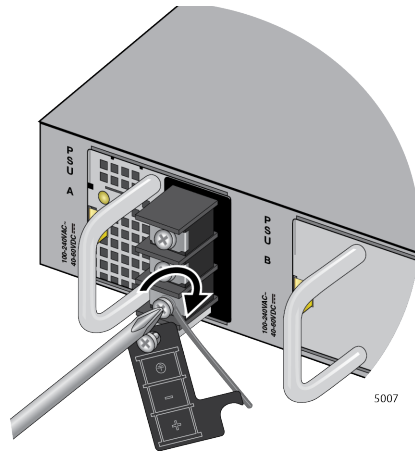

Figure 63. Wrapping the Grounding Wire and Tightening the Screw
5. Wind the grounding wire clockwise around the base of the grounding screw. Refer to Figure 63 on page 125.